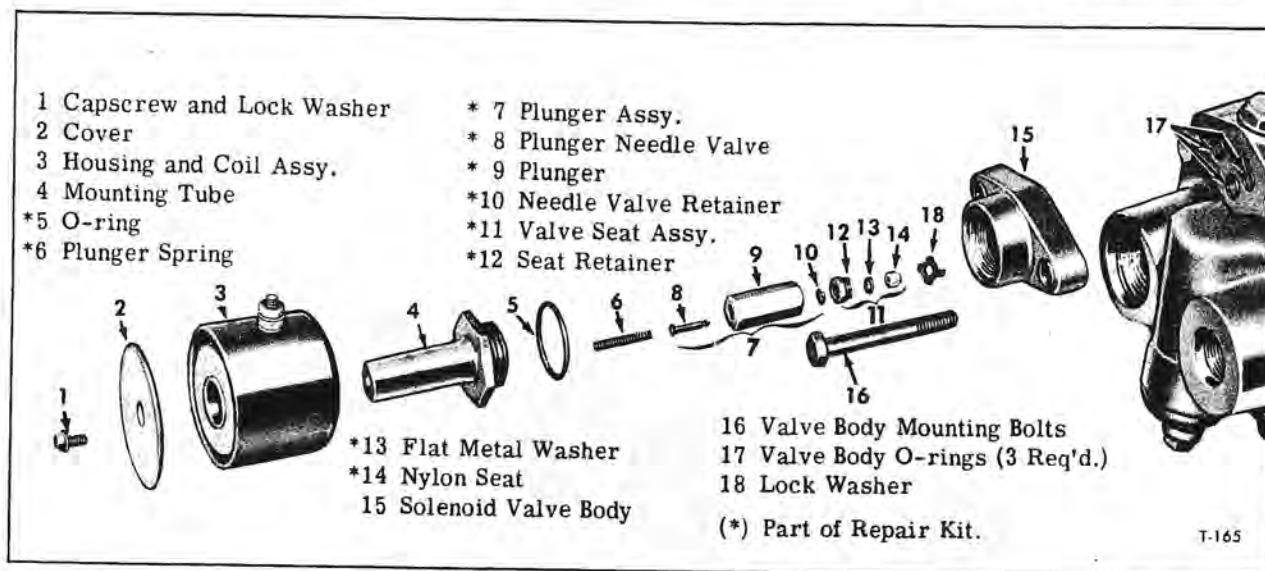

Figure 35—Pump Solenoid Valve Components
NOTE: Key numbers in text refer to figure 35.
3. Referring to figure 35, remove cap screw (1) and cover (2) from solenoid housing (3). Slide housing from mounting tube (4).
4. Remove mounting tube from valve body (15), then remove spring (6) and plunger assembly (7) from tube. Also remove the O-ring (5) from threads of tube. NOTE: The plunger assembly can be disassembled after removing needle valve retainer.
5. Using wrench, remove valve seat assembly (11) and lock washer (18) from valve body.
6. If necessary to remove valve body, remove two attaching bolts, then separate body from pump. Remove three O-rings (17) from recesses in pump flange.
NOTE: Key numbers in text refer to figure 35. All items identified by an asterisk (\*) in figure 35 are part of valve seat plunger kit.